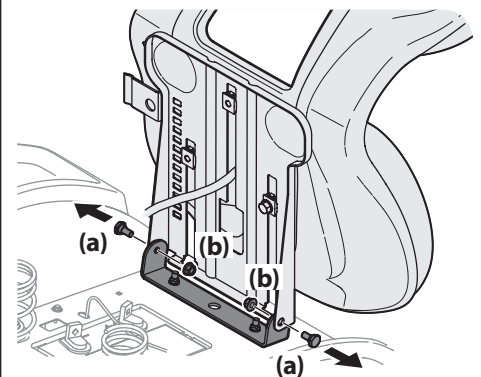

Figure 2-2
2. Remove the two shoulder screws (a) and flange lock nuts (b) in the seat pan as shown in Figure 2-2.